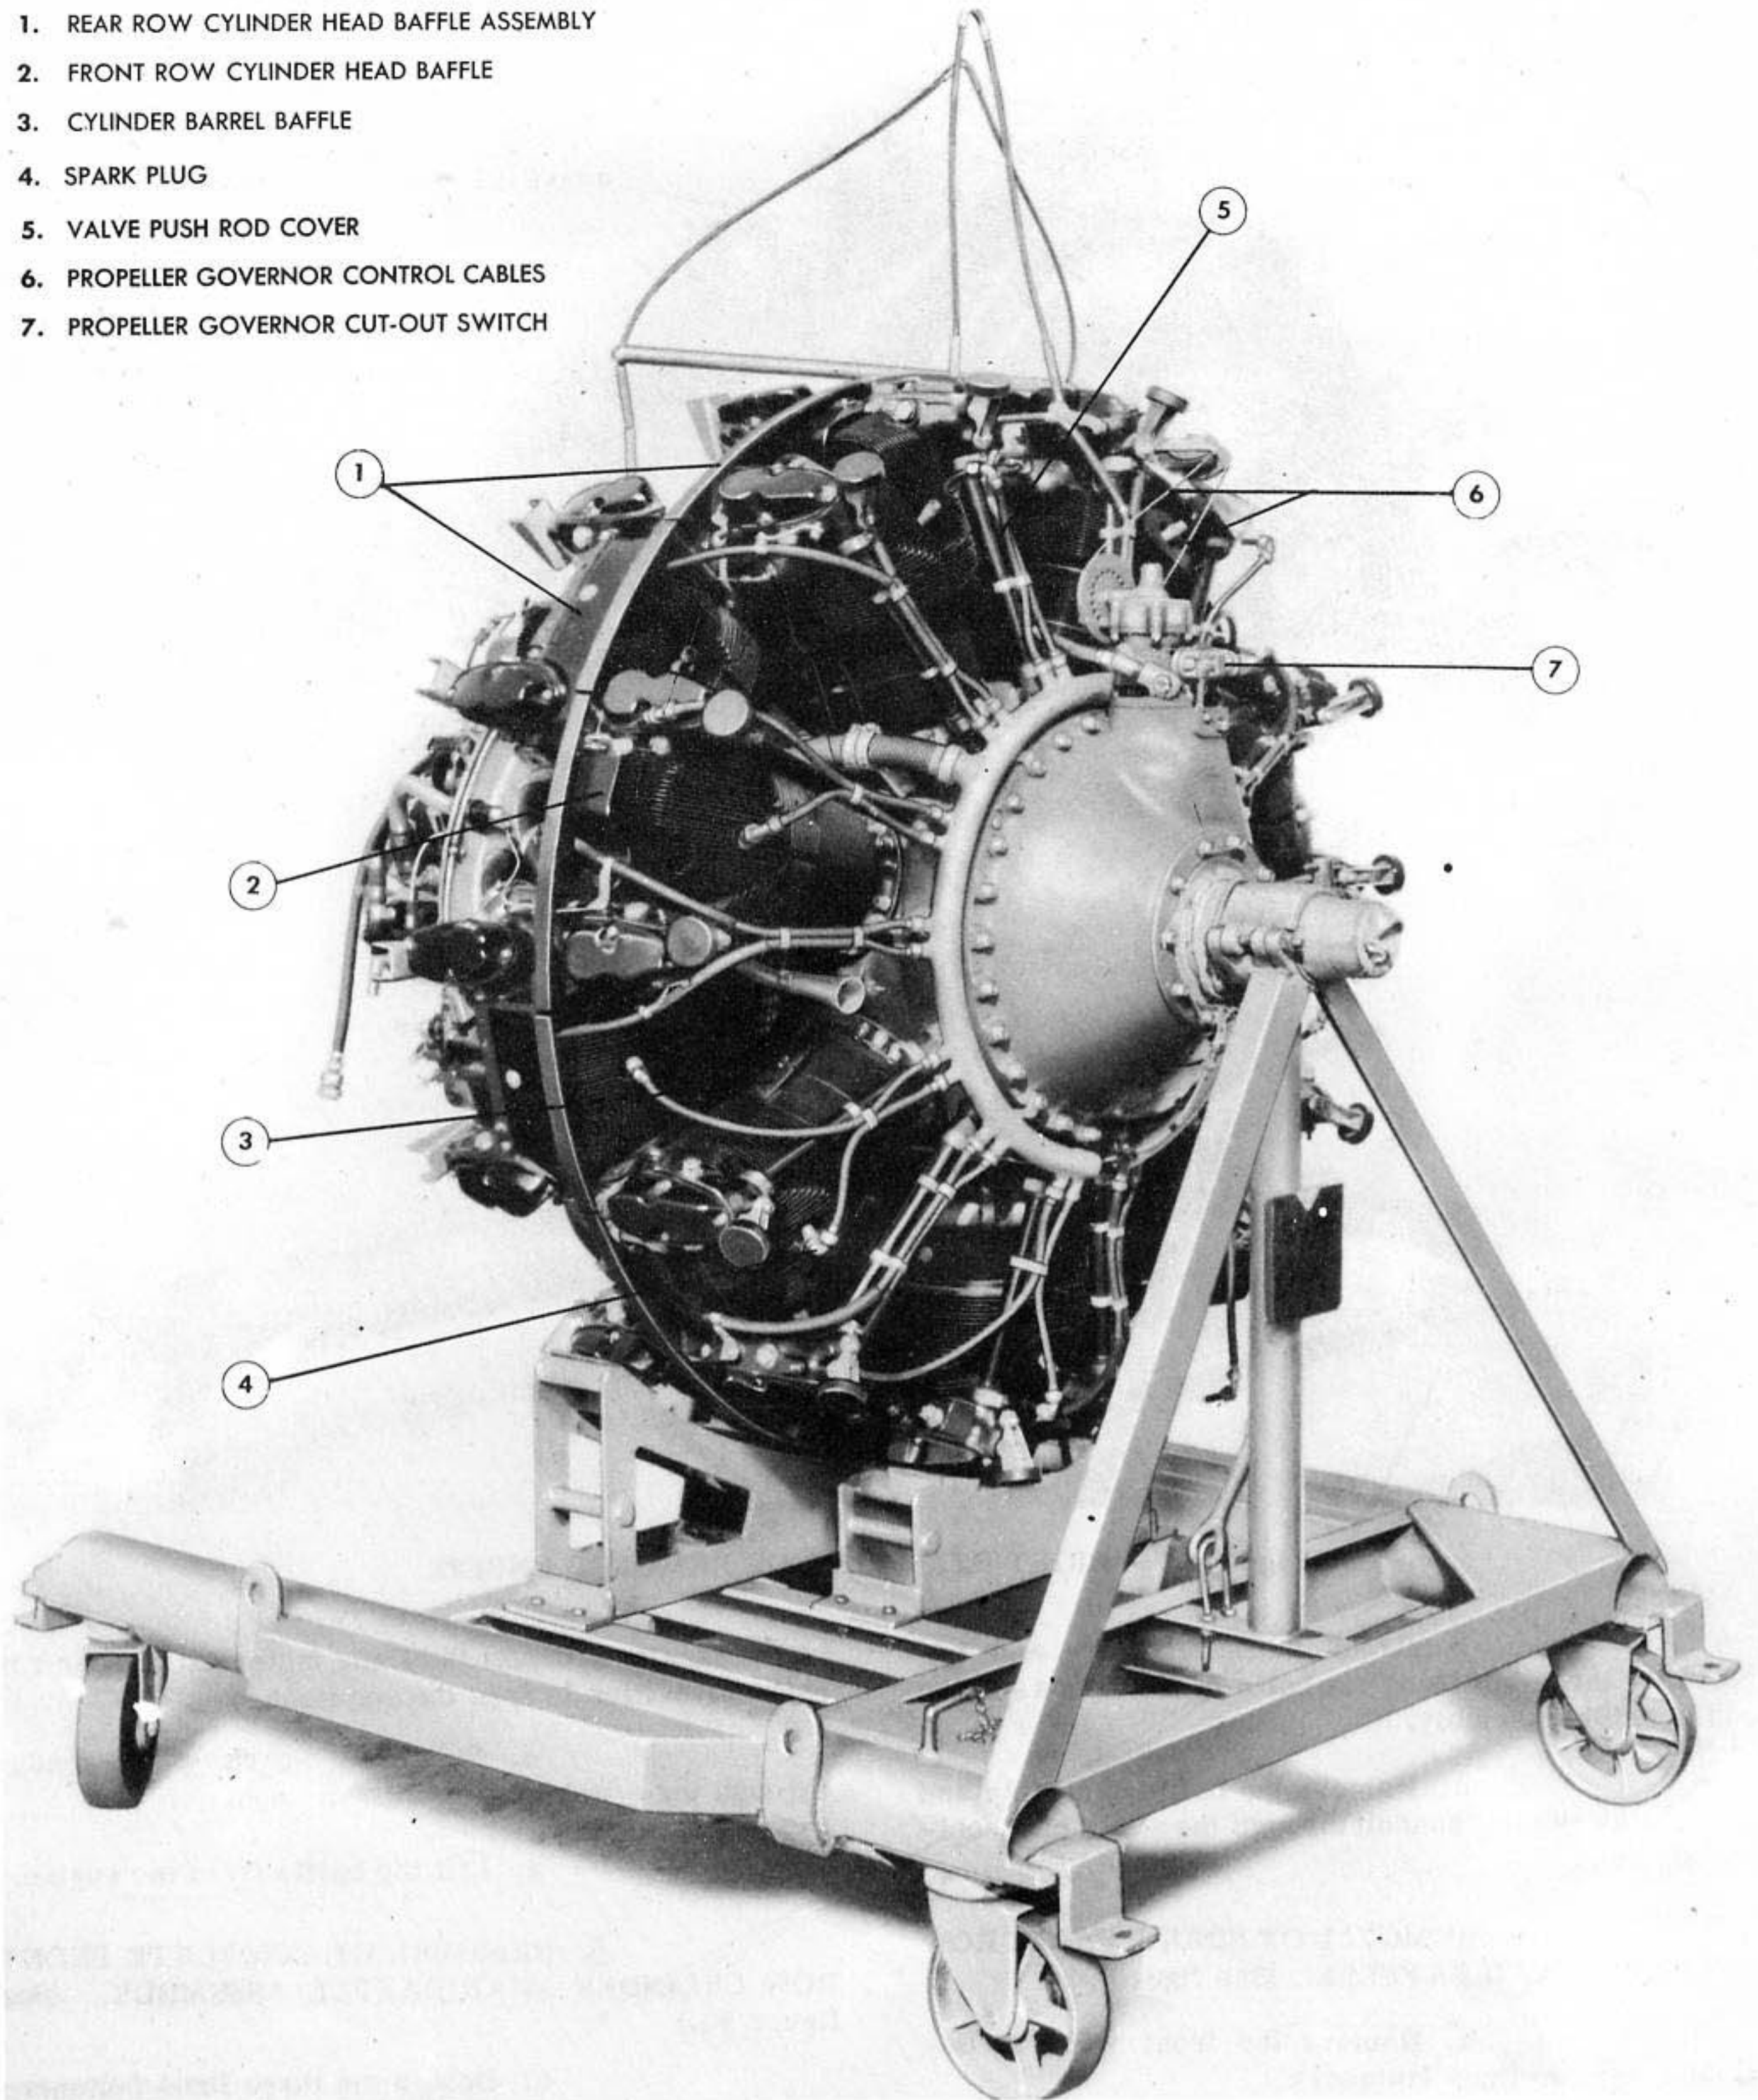

Figure 96 - LEFT FRONT VIEW OF REMOVED ENGINE
(ll) Lower engine into engine stand. (See figure 96.)
2 REMOVAL OF SINGLE REAR ROW CYLINDER HEAD BAFFLES. (See figure 96.)
3 REMOVAL OF COMPLETE REAR ROW CYLINDER HEAD BAFFLE ASSEMBLY. (See figure 96.)
4. REMOVAL OF SINGLE FRONT ROW CYLINDER HEAD BAFFLES. (See figure 96.)
5. REMOVAL OF COMPLETE FRONT ROW CYLINDER HEAD BAFFLE ASSEMBLY. (See figure 96.)
6. REMOVAL OF CYLINDER BARREL BAFFLES. (See figure 96.) - Cylinder baffles on both front and rear row cylinders are similar, but not interchangeable. The rear bank cylinder baffles are reinforced with leather padding at their leading edges where they make contact with the adjacent front bank cylinder baffles. All cylinder baffle assemblies are made up of four parts - consisting of two curved plate deflectors, a semicircular sheet steel clamp, and a spring-loaded latch bolt which holds the rear edges of the deflectors together. On either row of cylinders, the barrel baffles may be removed by the following procedure, although it may be necessary to remove an intake pipe to reach a front row cylinder barrel.